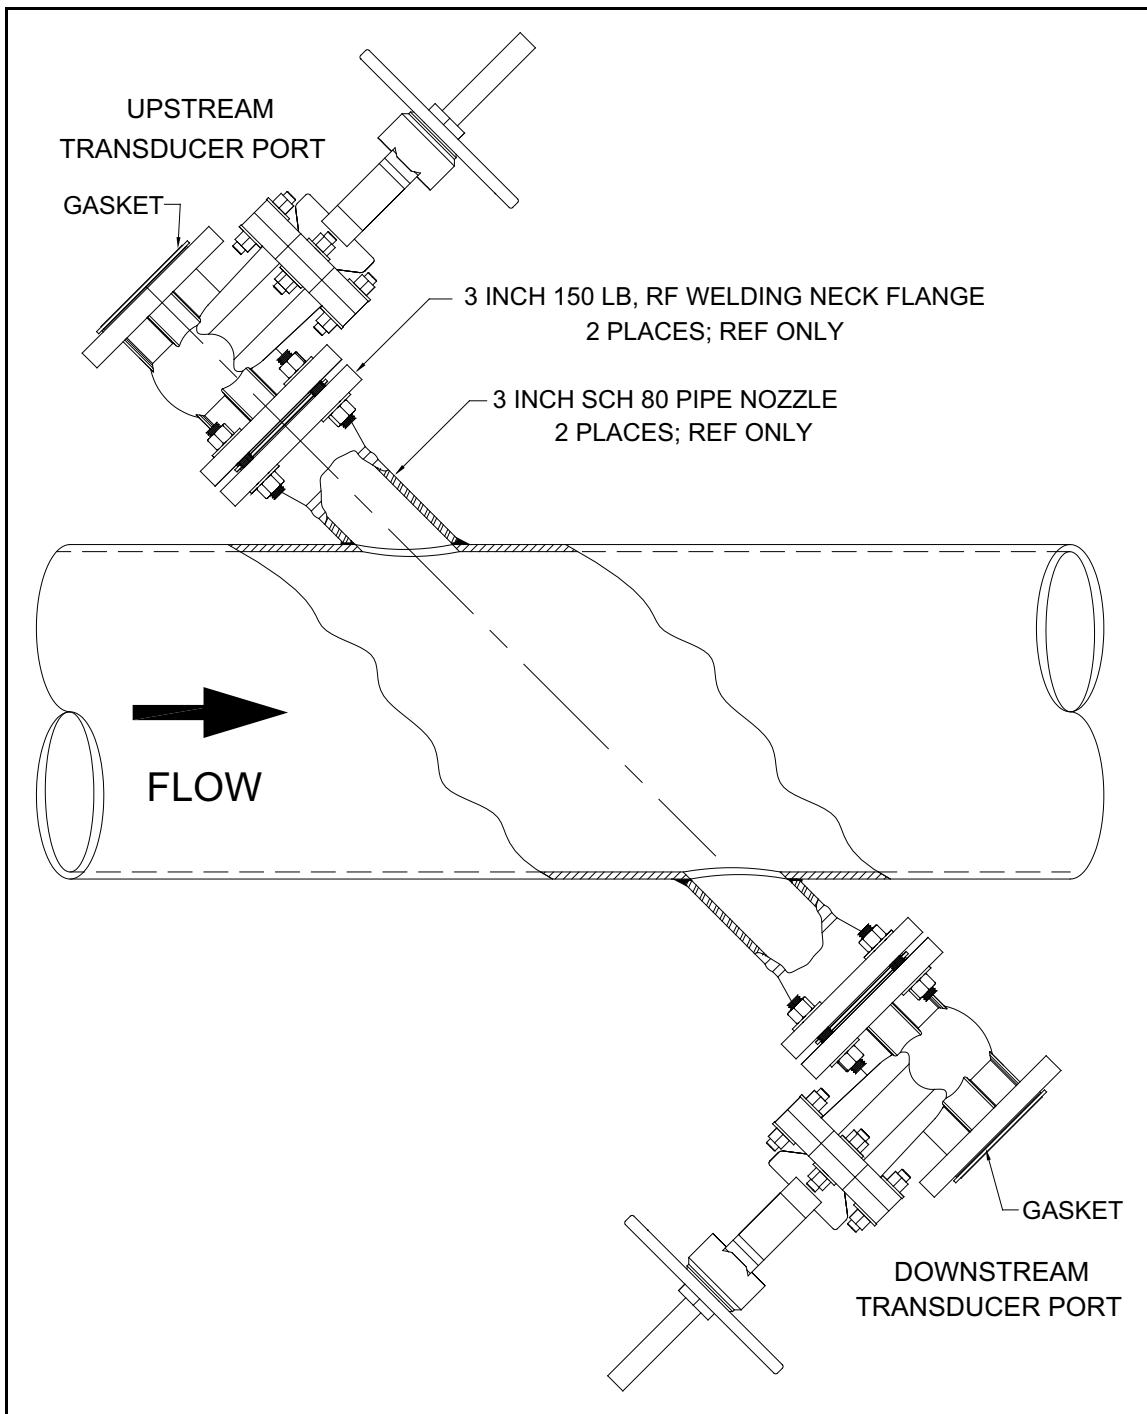

Figure 14: Standard Velocity Range Assembly
2. Check and make sure the isolation valves are securely installed with gaskets and hardware. Then, place a gasket on the face of each isolation valve (see either *Figure 14* below or *Figure 15* on page 48).